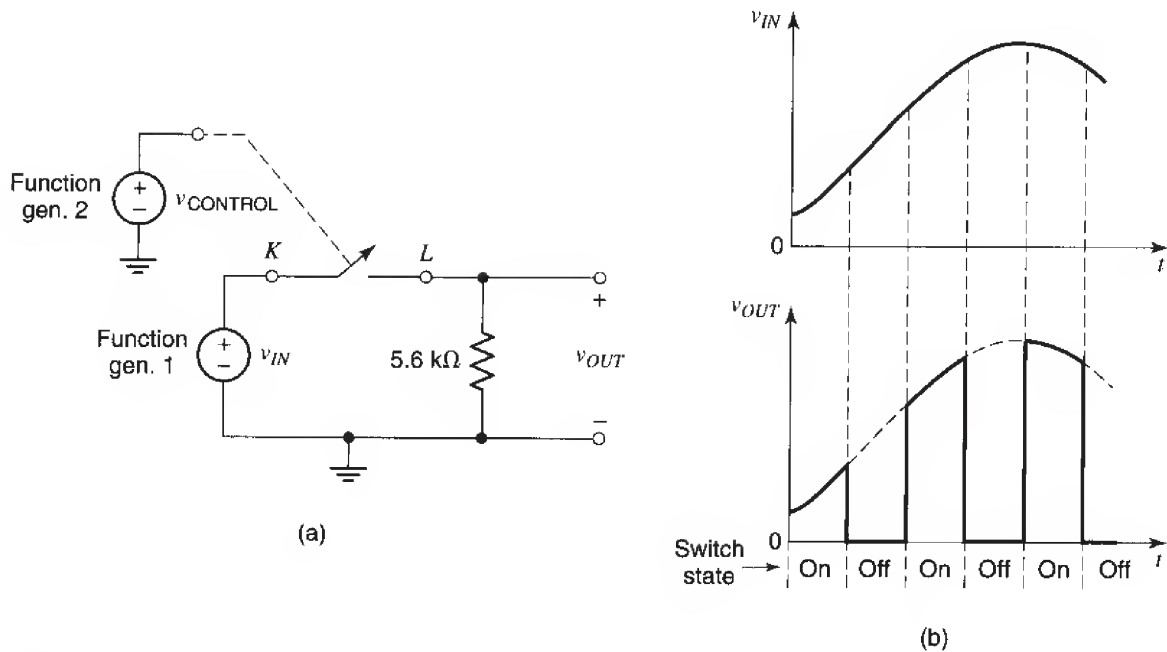

Fig. 8
15. The circuit in Fig. 8(a) is called a *chopper*, and is used in communications and instrumentation. When the switch is closed, the output is connected to the input and  $v_{OUT}$  is
equal to  $v_{IN}$ ; when the switch is open, the output is disconnected from the input and  $v_{OUT}$  equals zero. This operation is illustrated in Fig. 8(b).
16. Now connect the circuit of Fig. 8(a), using the values given in the previous step. Be sure the power supplies are connected as has been shown in Fig. 6(a) and are turned on. You will need two function generators. Use the scope to adjust the generator that provides the control voltage, so that it is a 10 kHz square wave with values -2 V and 2 V at its peaks and bottoms, respectively (if your generator does not provide such large values, smaller values can be tried). Then, use the scope's channel 1 to observe the input voltage (a 1 kHz sinusoidal voltage with a 1 V amplitude) and channel 2 to observe the output voltage. Trigger from channel 1. You will need to adjust *slowly and very carefully* the frequency of the control voltage generator to get a stable display. This adjustment may be tricky. Verify that the output waveform is as expected in step 15.